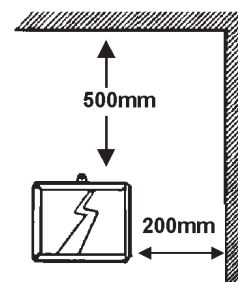

fig.2
- 3.1.3. To protect surfaces and objects from the light's heat, fix at the following minimum distances between the light and any surface/object, (fig.2).